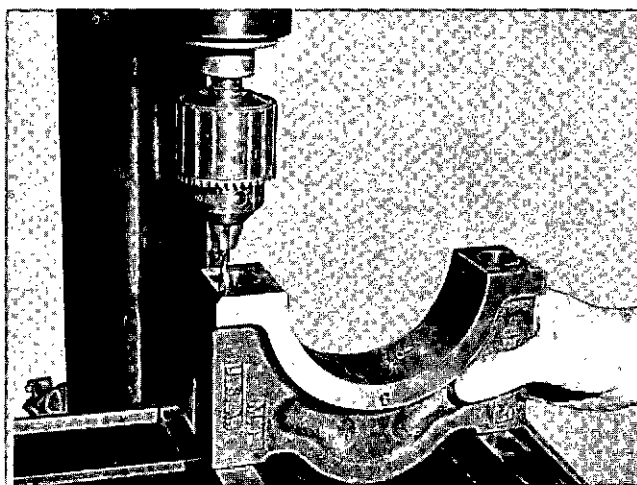

Fig. 1-1-15, V40129. Drilling dowel hole in rear main bearing cap
- d. Drill dowel holes. Fig. 1-1-15.